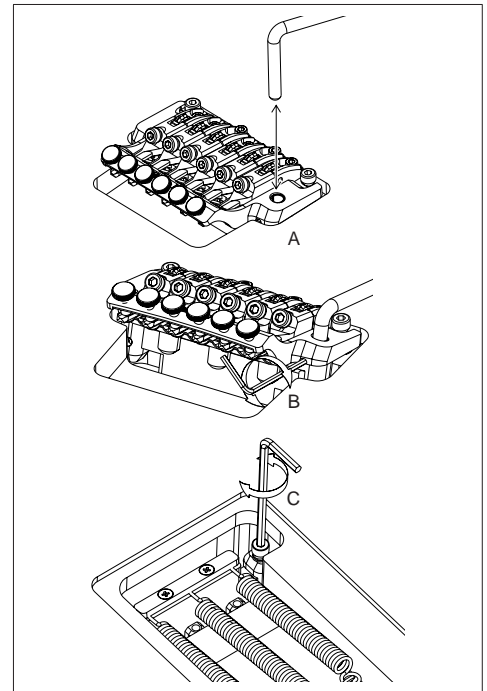

Fig. 1
The tremolo arm can be inserted and removed easily. Be sure to insert the tremolo arm into the arm socket (Fig. 1 A) and push down firmly until the arm snaps into place. To adjust the torque of the tremolo arm, use a 2 mm Allen key to turn the torque adjustment screw (Fig. 1 B) through the adjustment hole in the side of the base plate attached to the back of the arm socket. Turning the screw clockwise will tighten the arm torque, and turning the screw counterclockwise will loosen the arm torque. To adjust the height of the arm, remove the tremolo spring cover from the back of the guitar and turn the height adjustment screw (Fig. 1 C) attached to the bottom of the tremolo block with a 3 mm Allen key. Tightening the screw clockwise will raise the height.
**The Edge III Tremolo has two torque adjustment screws for the tremolo arm: one is at (Fig. 1 B) and the other is under height adjustment screw (Fig. 1 C). The adjustment screws are factory adjusted. If adjustment is required, be sure to remove the tremolo from the guitar before making adjustments.**
**Check that the screw (Fig. 1 C) securing the tremolo arm is not loose before attaching it.**